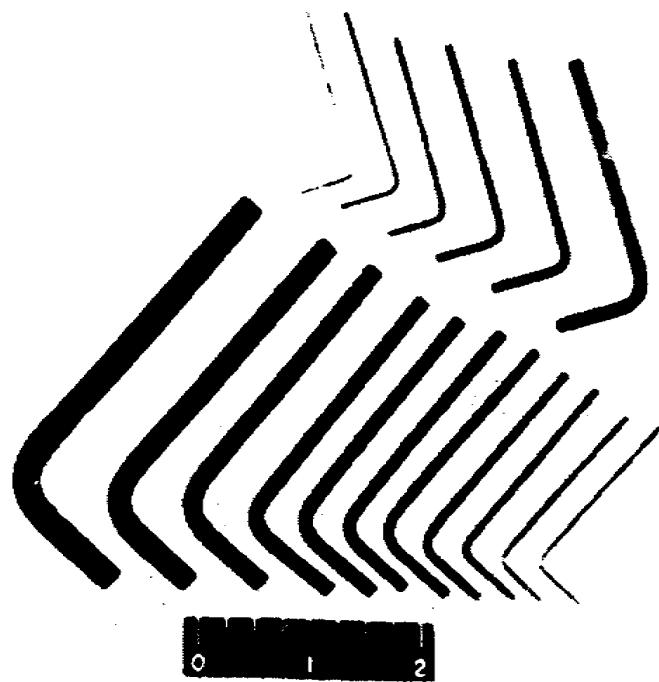

Figure 9. Wrenches: key sets (allen-type and spline-type)
(4) Key sets (fig. 9). Two types of key sets come in a TK-105/G. One set of 12 is the allen type in assorted sizes. The other set consists of six spline-type keys of assorted sizes. Both types of wrenches are often referred to as setscrew wrenches, or keys. The cross section of an allen wrench is hexagonal, to fit the hexagonal recess in the head of an allen screw. Examination of a spline-type wrench, or spline key, reveals six grooves or slots cut longitudinally in the shaft and equally spaced around the shaft. Similar to the allen screw and allen wrench in principle, the spline wrench fits into the internally splined recess in the head of a spline screw. The spline-type design is not so commonly used as the allen design, so the spline keys in this electronic repairman's tool kit have been limited to the six sizes shown here.